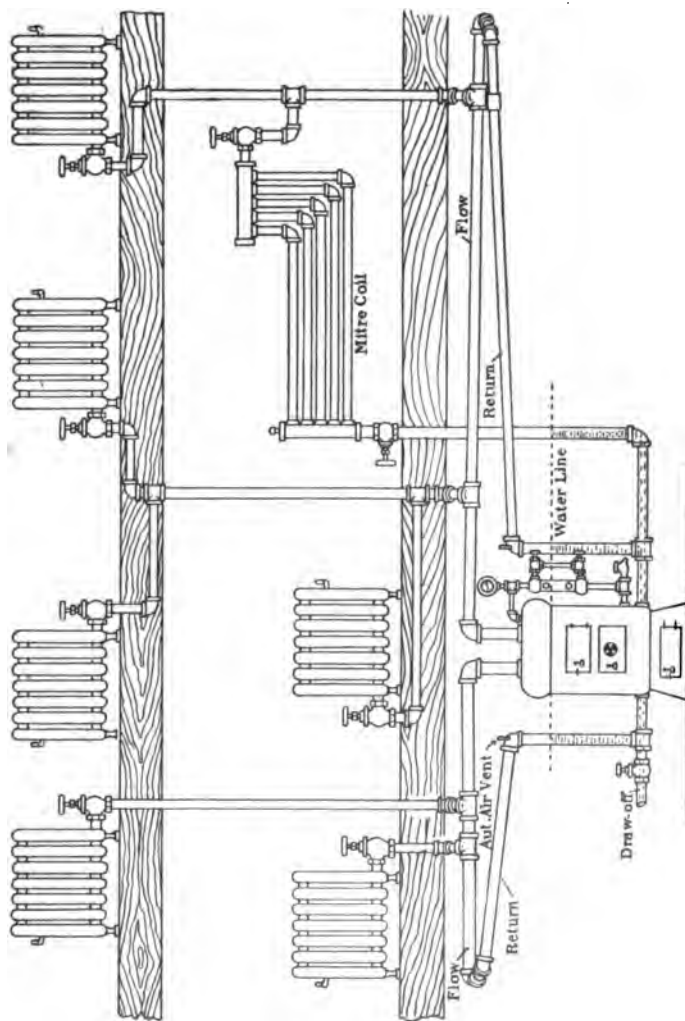

FIG. 143.—One-pipe system of steam heating.
**161. Steam Heating.**—In *steam heating* a steam boiler is connected to radiators by pipes. (See Fig. 143.) The steam drives the air out of the pipes and radiators and serves as an efficient source of heat. Heating by steam is *quicker* than heating with hot water. It is therefore preferred where quick, efficient heating is required. Hot